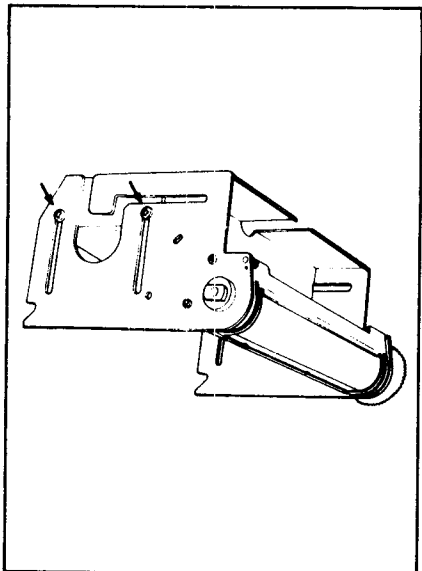

Figure 3-6.
- (1) Remove the chart compartment according to the par. 3.3.1 (2) procedure.
- (2) Loosen the fixing screw as shown in Figure 3.6, then push the box so that the fixing screw touches the long hole front end perfectly.